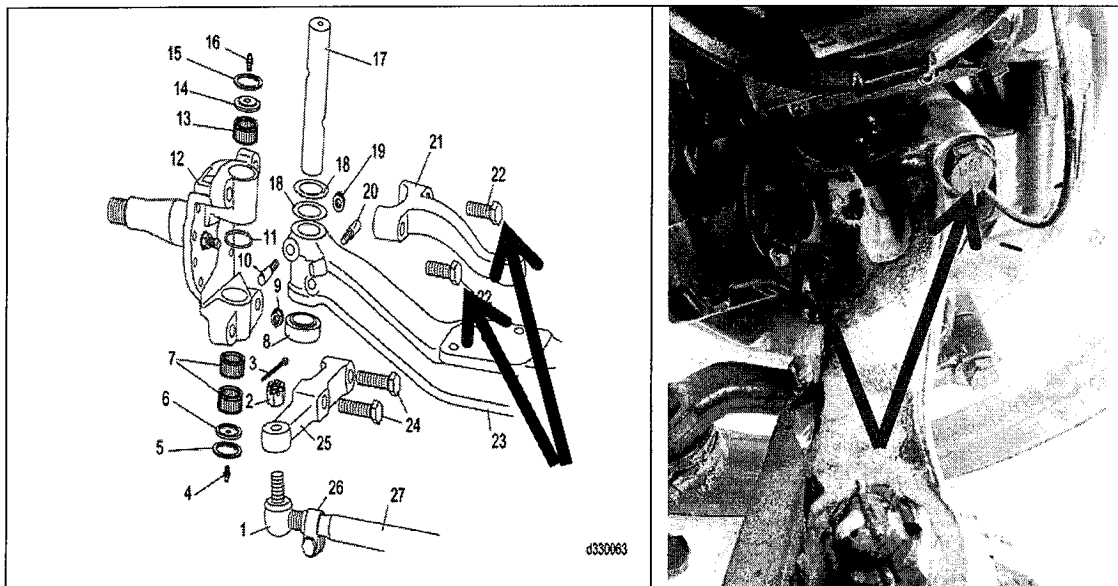

Figure 1 – Steering Arm Capscrew Location
3. Using a suitable torque wrench, check the torque on the two steering arm capscrews. See Figure 1.